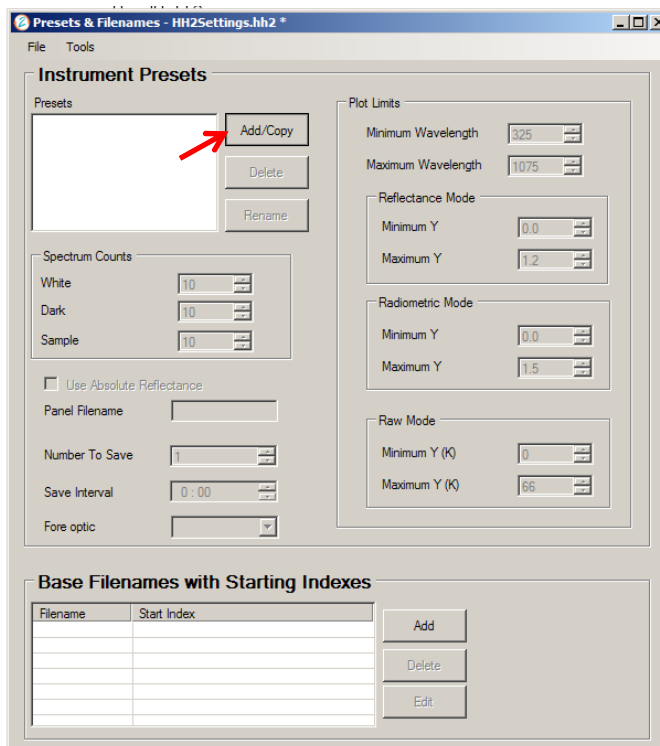

Figure 3-58: Add new preset
Step 7 Click on the *Add/Copy* button (Figure 3-58).